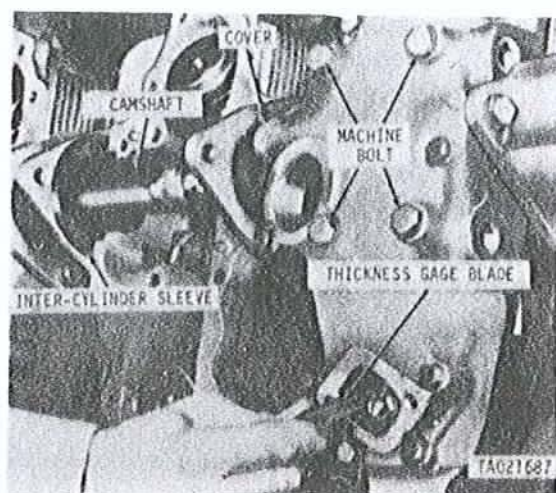

Figure 3-326. Installing valve rocker arm cover and adjusting intake valve clearance (cylinder No. 6R).
c. Rotate the right camshaft (fig. 3-326) until the two lobes (cams) for the intake and exhaust valves for No. 6R cylinder are pointed towards the crankshaft. Remove cover from fuel injector nozzle holder assembly opening in cylinder.
e. Install four new packings with retainers on four bolts (fig. 3-326) and install the four bolts and torque tighten to 275 to 325 pound-inches. Secure rocker cover to cylinder head with two capscrews and flat washers (3, fig. 3-67) seven bolts and flat washers (2) and four bolts and flat washers (1).
g. Using thickness gage blade part number 10882617 (fig. 3-326) set intake valve clearance to 0.100 inch by turning the adjusting screw clockwise to decrease the clearance or counterclockwise to increase the clearance. Check position of valve adjusting screw pad to make sure seat is flat on valve stem.
l. Set cylinder No. 6R intake valve clearance by rotating crankshaft counterclockwise approximately 1/4 turn in order to have No. 6R intake valve rocker arm roller on base circle of camshaft. Set intake valve clearance to final 0.010-inch setting, using thickness gage blade part number 10882615 as shown in figure 3-326. Torque tighten adjusting screw lock nut to 175 pound-inches after adjustment.
j. Install four new packings with retainers on four bolts (fig. 3-326) and install the four bolts and torque tighten to 275 to 325 pound-inches. Secure rocker cover to cylinder head with two capscrews and flat washers (3, fig. 3-67) seven bolts and flat washers (2) and four bolts and flat washers (1). Torque tighten eleven bolts and two capscrews to 100 pound-inches.
k. Using thickness gage blade part number 10882615 as shown in figure 3-326, set intake valve